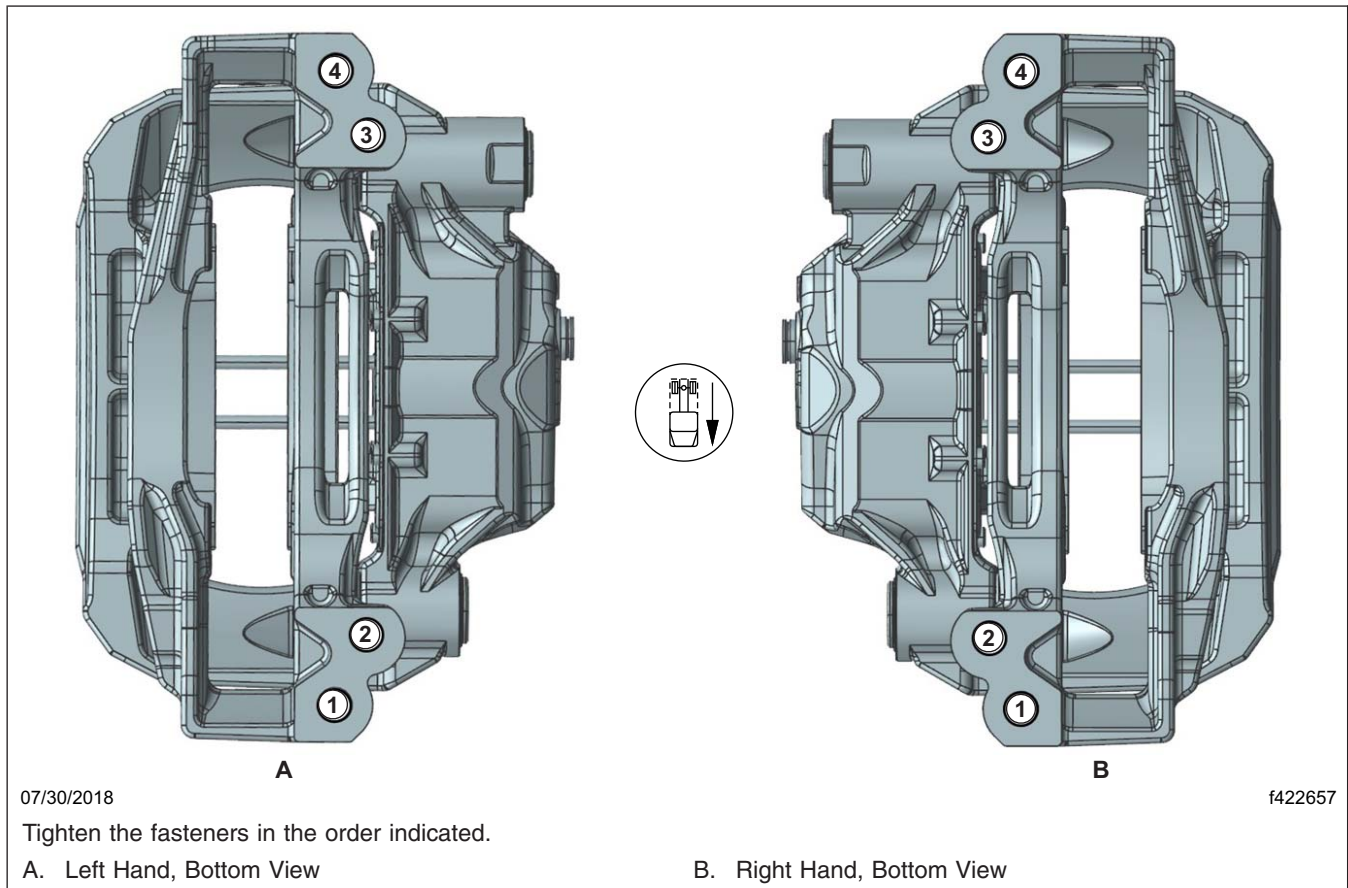

Fig. 10, Wabco Maxxus Radial Mounted Caliper Tightening Pattern
9. Align each caliper/carrier assembly with the rotor by pushing the fixed pin side of the caliper against the shelf on the torque plate, then install the caliper/carrier assembly using new caliper mounting bolts. See Fig. 9 and Fig. 10.
10. Tighten the carrier mounting bolts in two steps, using the pattern shown in **Fig. 10**.